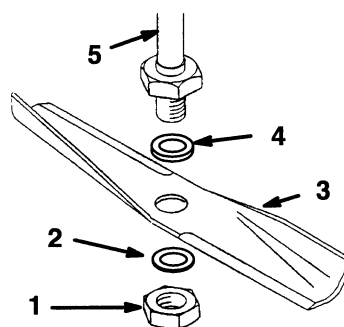

Figure 23
3. Remove the nut, flat washer, blade, and washer (Fig. 23). A block of wood may be wedged between the blade and the mower to lock the blade when you are removing the bolt.